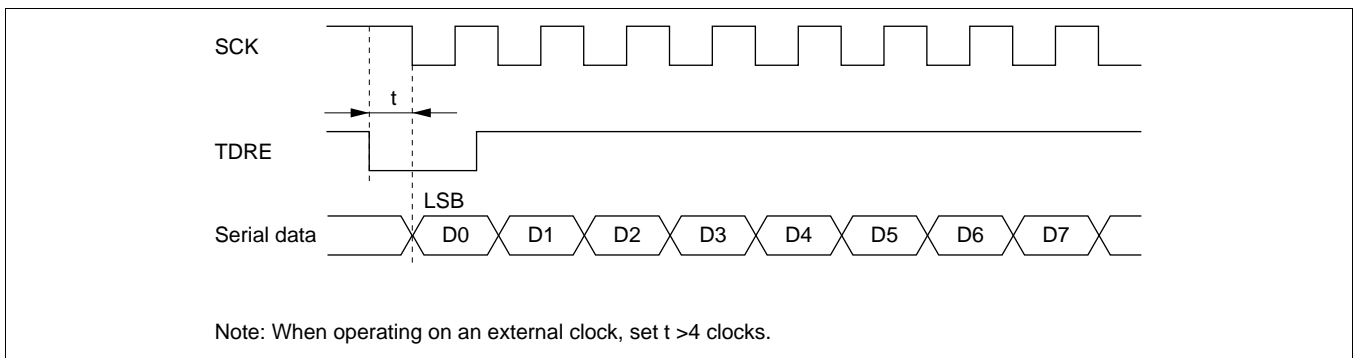

Figure 14-22 Example of Clocked Synchronous Transmission by DTC
- When an external clock source is used as the serial clock, the transmit clock should not be input until at least 5 φ clock cycles after TDR is updated by the DMAC or DTC. Misoperation may occur if the transmit clock is input within 4 φ clocks after TDR is updated. (Figure 14-22)